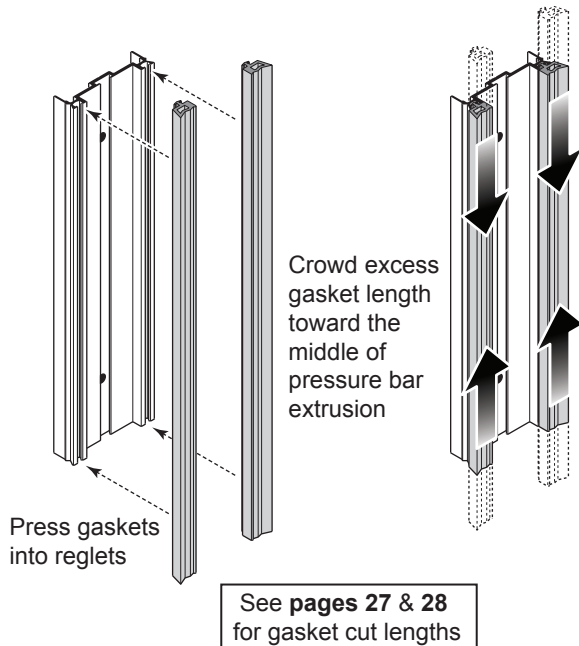

Fig. 40.1
- A. Install P4606 gasket into vertical and horizontal pressure plates. See **Fig. 40.1**.